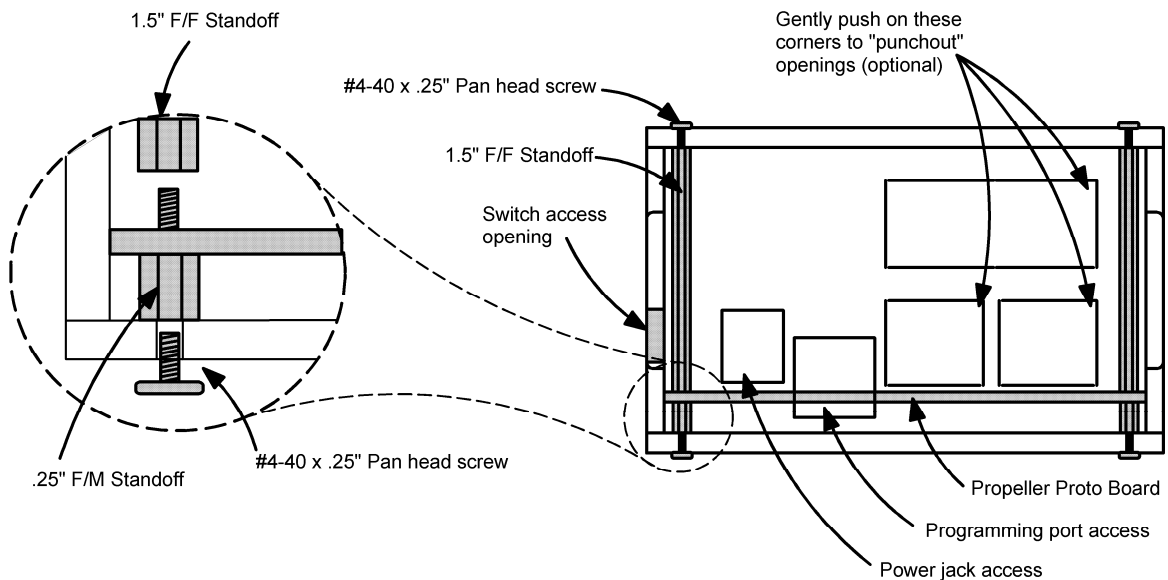

Figure 2
Step 3: If you're installing a Propeller Proto Board, attach the (4) .25" long F/M standoffs through each of the four corner mounting holes with a corresponding 1.5" long F/F standoff, as shown in Figure 2. Make them snug, but do not over-tighten. If you're installing any of the other boards, do not install the 1.5" long F/F that is nearest the power jack—it interferes with the power plug, and is not used.